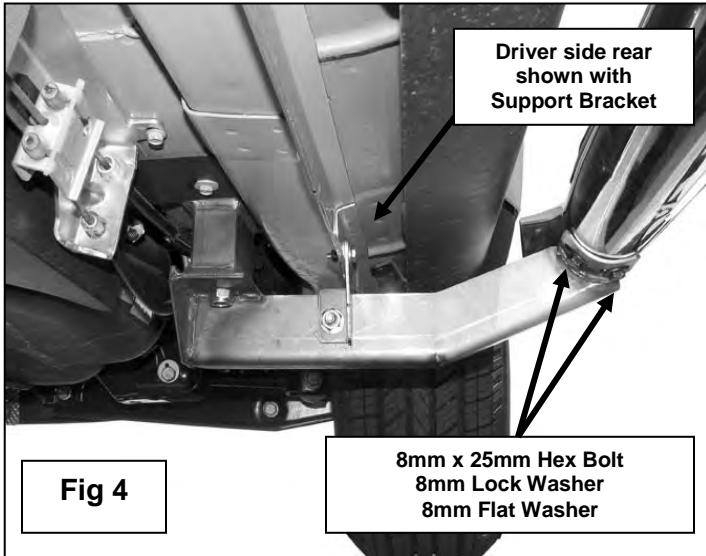
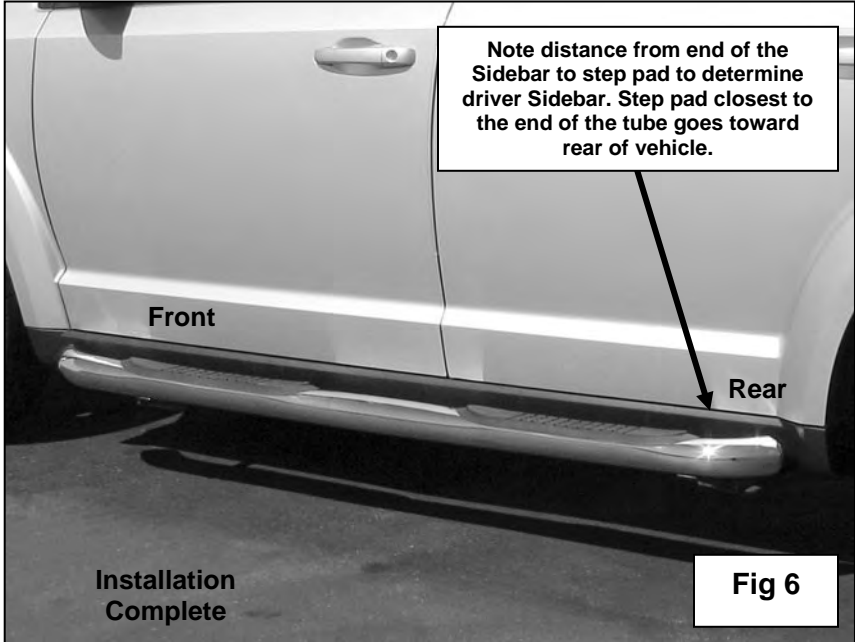

Fig 4
Fig 6
3. Locate the driver side Front Mounting Bracket and bolt it to the backside of the Frame Bracket using (2) 12mm x 35mm Hex Bolts, (4) 12mm Flat Washers, (2) 12mm Lock Washers and (2) 12mm Hex Nuts. Snug but do not tighten bolts at this time.
4. Moving to the driver side rear of the vehicle, determine the location and install the 12mm x 95mm Long Bolt Plate, (**Figure 4**). Rotate Bolt Plate counter-clockwise 90 degrees or until it stops in frame channel.
5. Hang the driver side Rear Mounting Bracket from the Bolt Plate using (1) 12mm Flat Washer, (1) 12mm Lock Washer and (1) 12mm Hex Nut. Snug but do not tighten at this time.
6. Carefully unwrap the Sidebars and determine the Driver Sidebar from the picture on page 3, (**Figure 6**). The step pad closest to the end of the tube goes toward the rear of the vehicle.
7. Gently align and place the Sidebar onto the Mounting Brackets and hold it in place with the included (4) 8mm x 25mm Hex Bolts, (4) 8mm Lock Washers and (4) 8mm Flat Washers. Snug all hardware but do not tighten at this time.
9. Locate the driver side Front Support Bracket Tab and secure it to the Mounting Bracket using (1) 10mm x 35mm Hex Bolt, (2) 10mm Flat Washers, (1) 10mm Lock Washer and (1) 10mm Hex Nut. **Note:** This same tab also fits on The Passenger/Right Side Rear Bracket. Snug but do not tighten the bolt at this time. Rotate the Support Bracket next to the Pinch Weld on the vehicle and Drill a 1/4" hole through the pinch weld to secure the bracket.